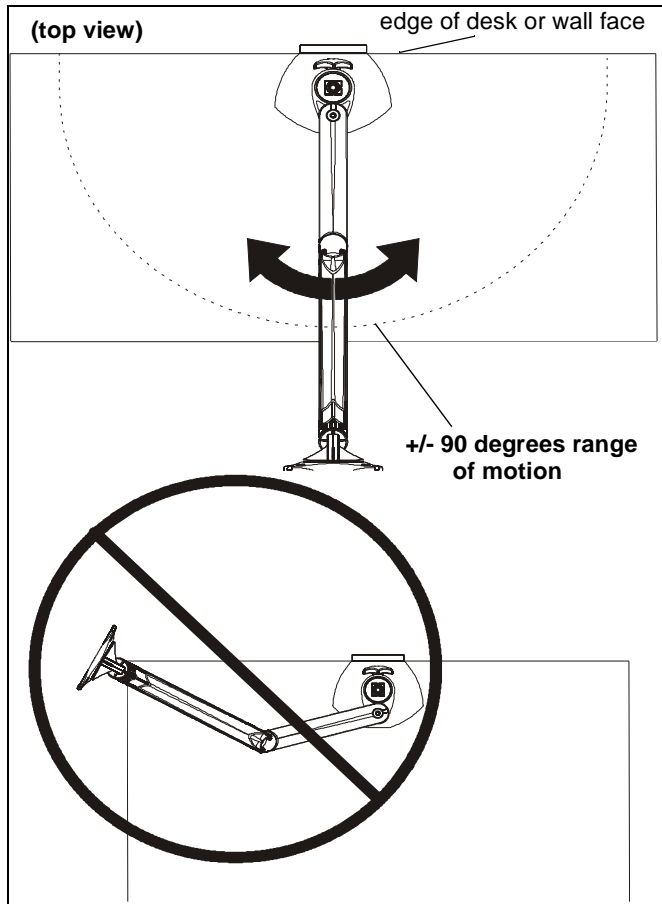

Figure 13
1. Adjust arm angle as desired up to 90 degrees in either direction. (See Figure 13)